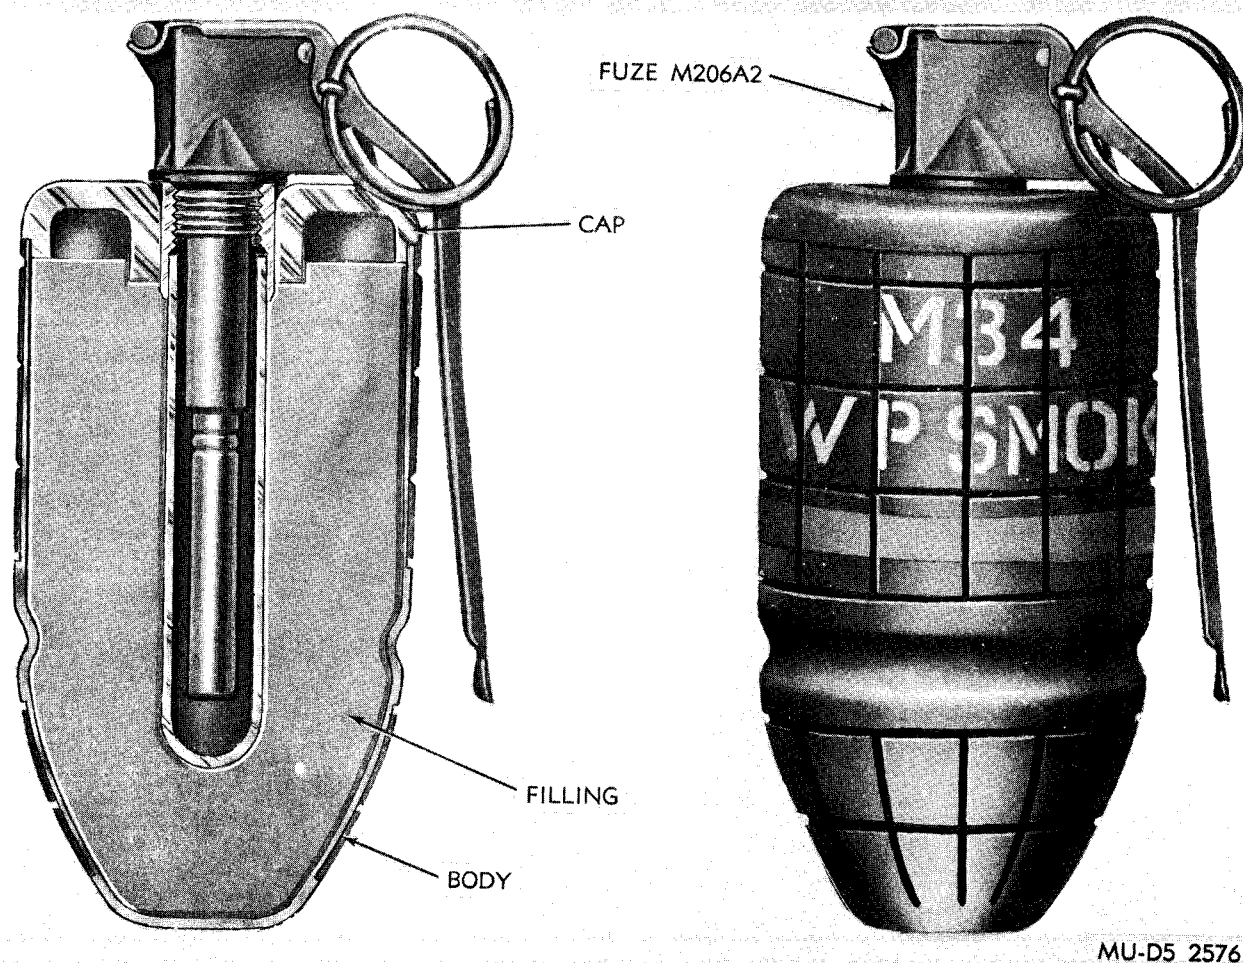

Figure 2-22. WP smoke hand-rifle grenade M34.
a. *General.* Hand-Rifle Grenade M34 (fig. 2-22) is used for signaling, screening and incendiary purposes. The screening effect of the smoke is limited because WP burns with such intense heat, the smoke tends to rise rapidly. Pieces of WP will burn for about 60 seconds, igniting any flammable substance contacted. Since WP burns the flesh, it is effective against personnel. The effective casualty radius is 25 meters (82 feet).